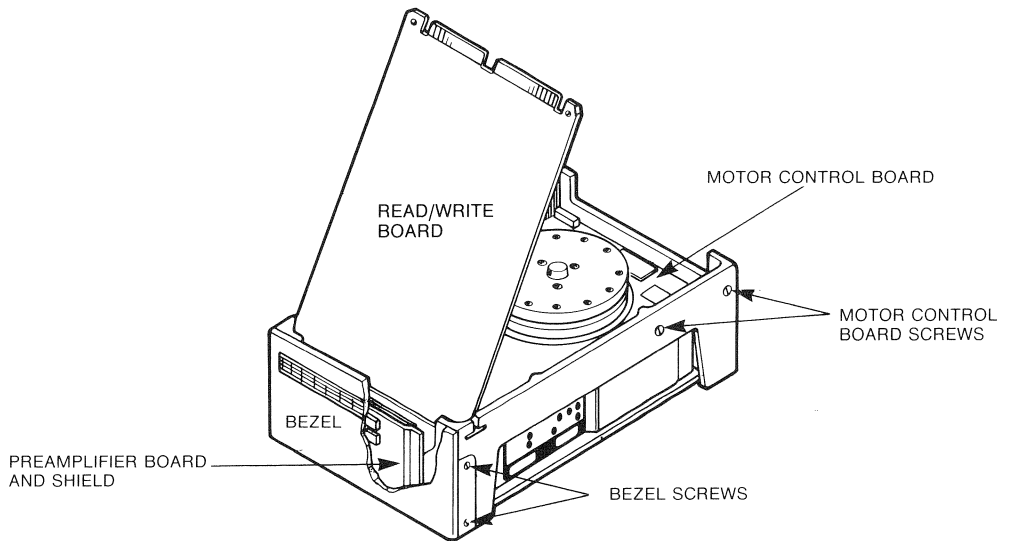

Figure 10-14 RD53 Read/Write Board Removal
1. Remove the four Phillips screws retaining the slide plate and ground clip. Set the slide plate aside (Figure 10-14).